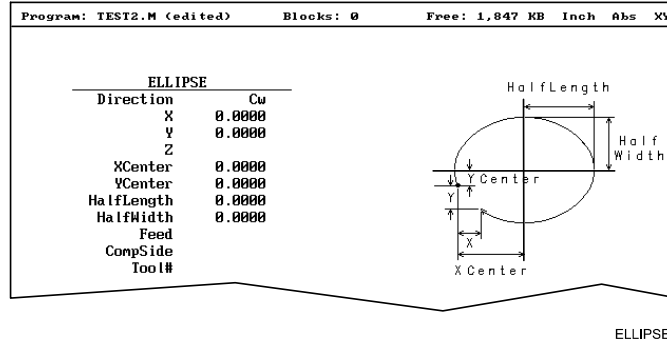

Figure 5-24, ELLIPSE Graphic Menu
3. Highlight **Ellipse**, and press **ENTER** to display the **ELLIPSE** Graphic Menu. Refer to **Figure 5-24, ELLIPSE Graphic Menu**.